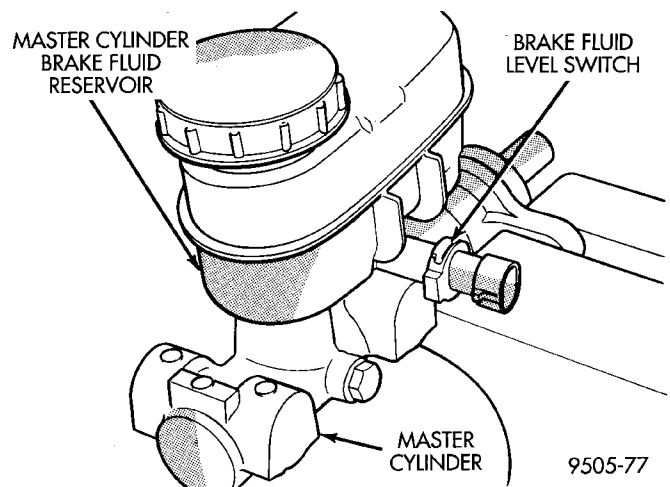

Fig. 167 Removing/Installing Fluid Reservoir Level Switch
(3) While compressing retaining tabs, grasp opposite end of brake fluid level switch and pull it out of master cylinder brake fluid reservoir (Fig. 167).